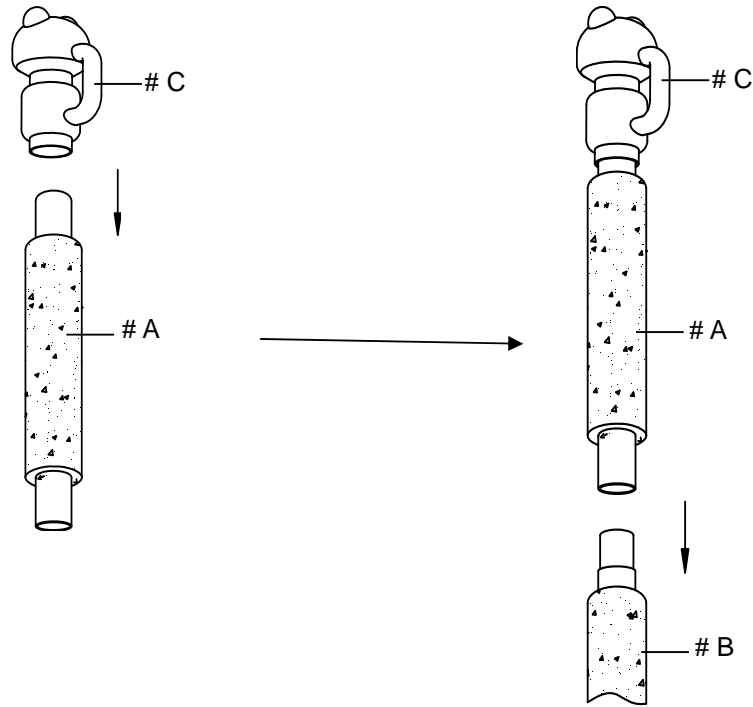

FIGURE 16
B. Attach Tube Cap (# C) to Upper Frame Tube with Foam (# A) as shown in FIGURE 16.
C. Attach Upper Frame Tube with Foam (# A) to Lower Upper Frame Tube with Foam (# B) as shown in FIGURE 16.